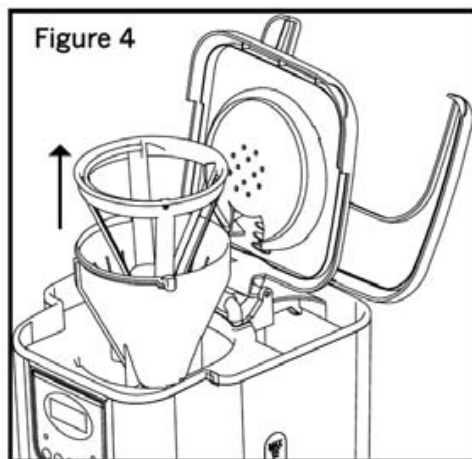

Figure 4
• These can be washed in warm soapy water and rinsed thoroughly, or cleaned in the upper rack of the dishwasher. (Figure 4)